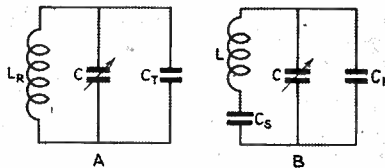

Fig. 1—Oscillator with shunt trimmer across tuning condenser
Figure 1A shows a typical r-f circuit, where C_T is the r-f trimmer and C the main tuning condenser. Figure 1B shows the conventional oscillator circuit, where C_H is the shunt trimmer, C_S the series trimmer, and C the oscillator tuning condenser. For the moment both tuning condensers will be considered as being identical, although this is not a necessary condition. The only thing required to know about C is its minimum and maximum capacity. This information is supplied by the manufacturer of the gang condenser, or can be readily measured. The condensers C in Fig. 1 are assumed to vary from zero to maximum capacity. In other words the minimum capacity is considered to be part of the shunt trimmers in both the r-f and oscillator circuits.
Equations (9), (11) and (12) yield all the necessary information for tracking the circuit of Fig. 1.
Fig. 1—Attenuation of short waves generated at the transmitting antenna, T, and picked up at the receiving antenna, R, when the transmission path is over reflecting surface of the earth
"Automatic Radio Relay Systems for Frequencies Above 500 Megacycles" was the title of a paper delivered by J. E. Smith of RCA Communications. The discussion had special reference to television relay systems and the relay setup between Camp Upton on Long Island and New York City was described in some detail. Several relay stations are used here with little degradation in the quality of the signal. Wave propagation as applied to the transmission of 500-Mc signals over a reflecting surface, such as the earth, was discussed and the illustration of Fig. 1 shows a typical arrangement of transmitting and receiving antennas with respect to the earth's surface together, with the formula for attenuation over such a path. It was stated that atmospheric noises in this part of the spectrum do not interfere to any considerable degree with the signal, but that thermal noise in the circuits and fluctuation noises do cause interference. In this type of service the speaker said that